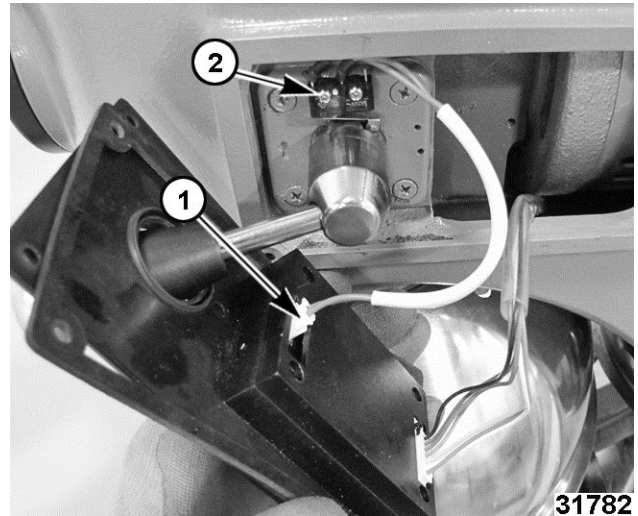

Fig. 61
2. Disconnect speed shift micro switch from control panel (1, Fig. 61).
3. Remove speed shift micro switch by removing screws (2, Fig. 61).